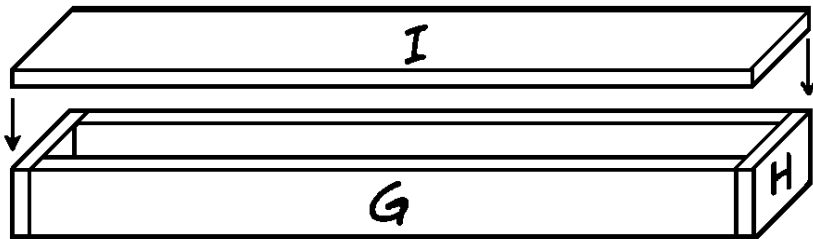

Figure 4
- To stabilize the cabinet and lift it off the floor, we built very simple base units and attached them to the bottoms of the two assembled cabinets. Cut two long bases (G) from 1 x 4 pine, each measuring 30" long.
- Cut two short bases (H) from 1 x 4 pine, each measuring 3-1/2" long
- Cut one 31-1/2" long base top (I) from 1 x 4 pine.
- Place the two long bases (G) on a level surface, parallel to each other, on edge and 2" apart. Glue the two short bases to the ends of the two long bases (G) as shown in *Figure 4*, and insert two 1-1/4" screws through the short bases (H) and into the ends of the long bases (G) at each joint. You should end up with a rectangular base frame measuring 31-1/2" x 3-1/2".
- Glue the base top (I) to the top edges of the base frame, as shown in *Figure 4*. Then drive 3d finishing nails through the base (I) and into the edges of the base frame, spacing the nails about 4" apart.